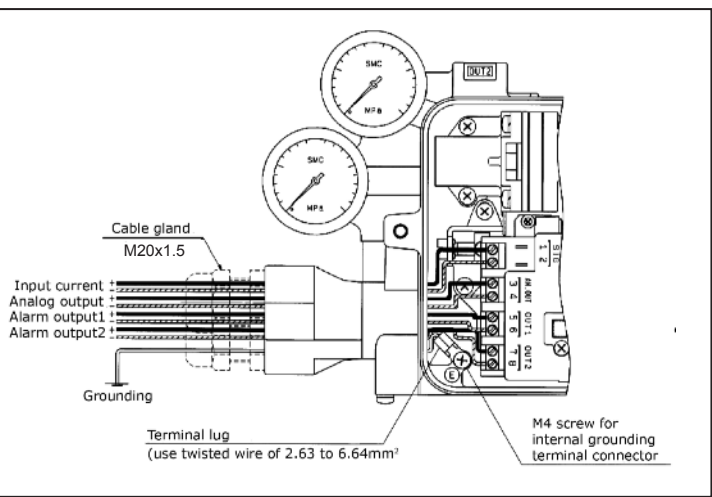

Fig. 7
- (1) Remove the positioner body cover.
- (2) Connect the input current wiring from an adjusting meter (controller) and connect each output wiring following Fig. 7. The input port of the electrical connection is equipped with a (blue) cable connector M20×1.5.